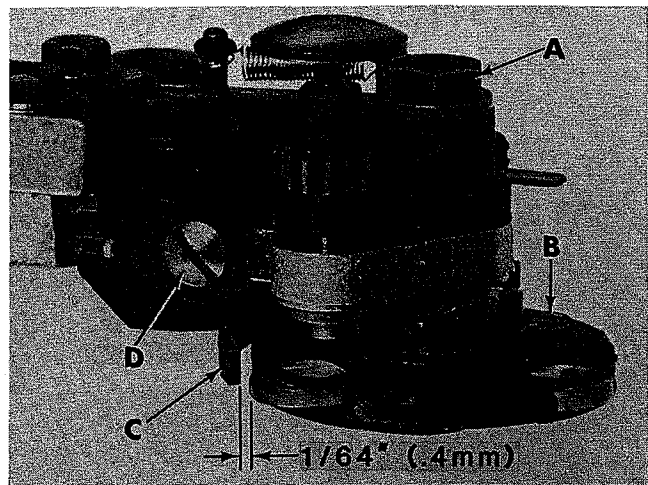

Fig. 39
Loosen hex head bolt (A, Fig. 39) and remove the button holder. Loosen screw (B) in the holder top cover. Insert three buttons, of the size to be sewn, in the holder. More or less spring pressure is applied to the buttons by slightly rotating the top cover while holding the bottom portion. When proper pressure is obtained, tighten screw (B) and assemble the holder to the clamp. Tighten hex head bolt (A).
With a button properly seated in the holder, guide (C, Fig. 39) should clear the button by 1/64 inch (0.4 mm) as the holder rotates.